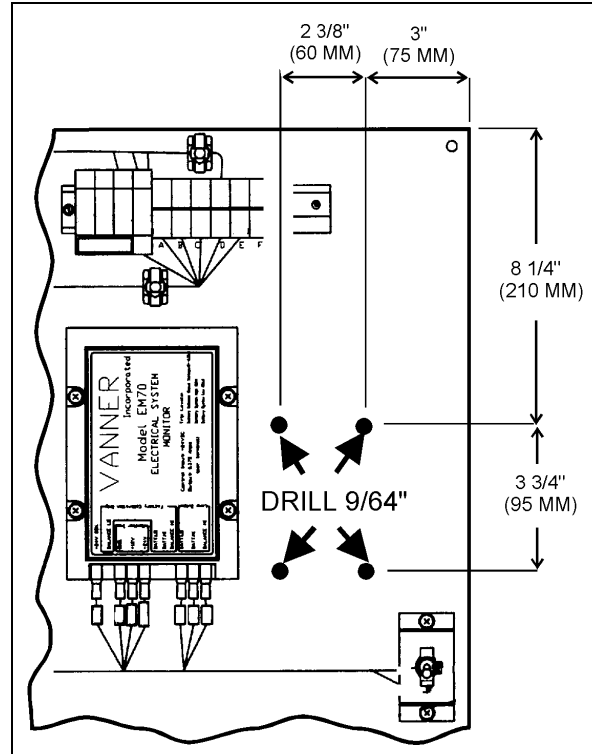

FIGURE 3
4. Referring to figure 3, drill 4 holes using a 9/64" (3,6 mm) diameter bit.